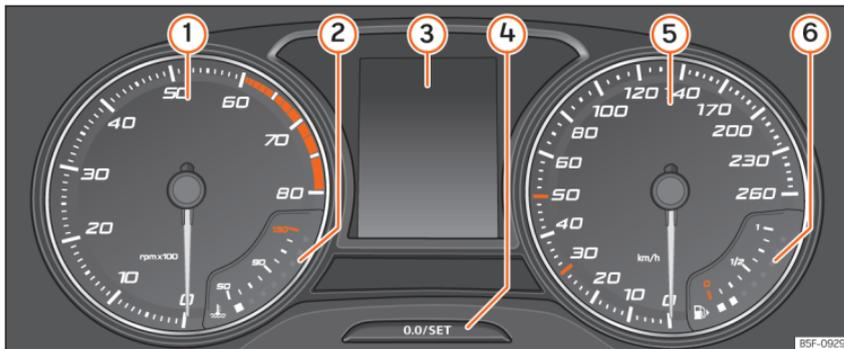

Fig. 126 Instrument panel, on dash panel.
Details of the instruments »» **Fig. 126:**
- Briefly press the button  » Fig. 126  to reset the trip recorder to 0.